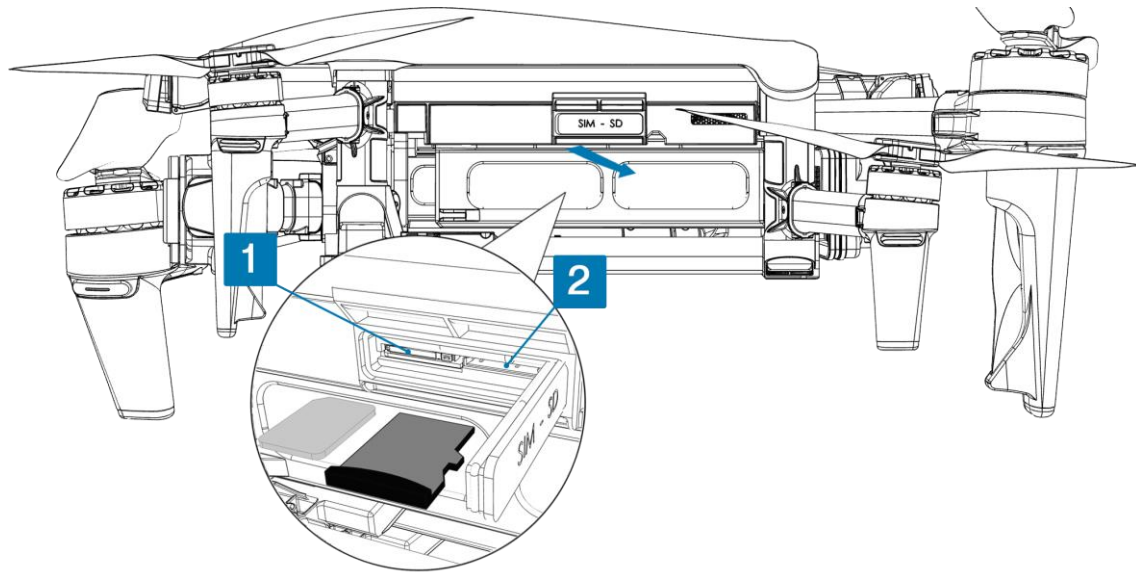

Figure 13: Nano SIM card/MicroSD card insertion
- a. Insert the nano SIM card into the left-hand keyed slot (No. 1 in Figure 13).
- b. Insert the microSD card into the right-hand keyed slot (No. 2 in Figure 13).